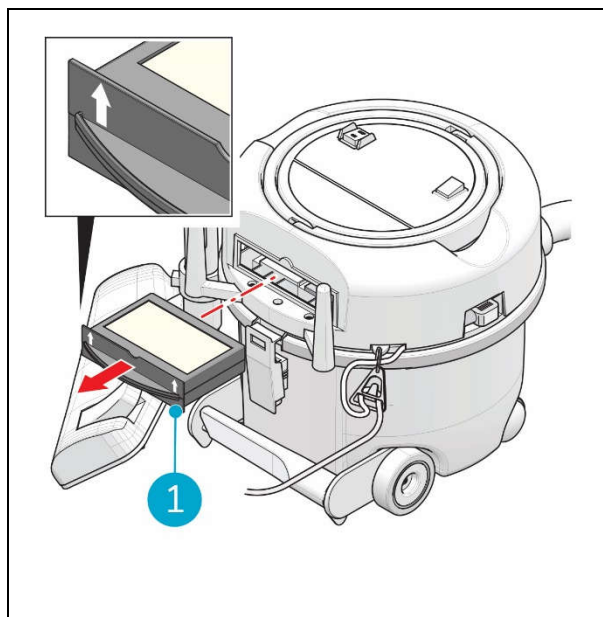

Figure 22
1. Pull out the cassette filter (fig 22, pos 1) from the head of the i-vac 6®.